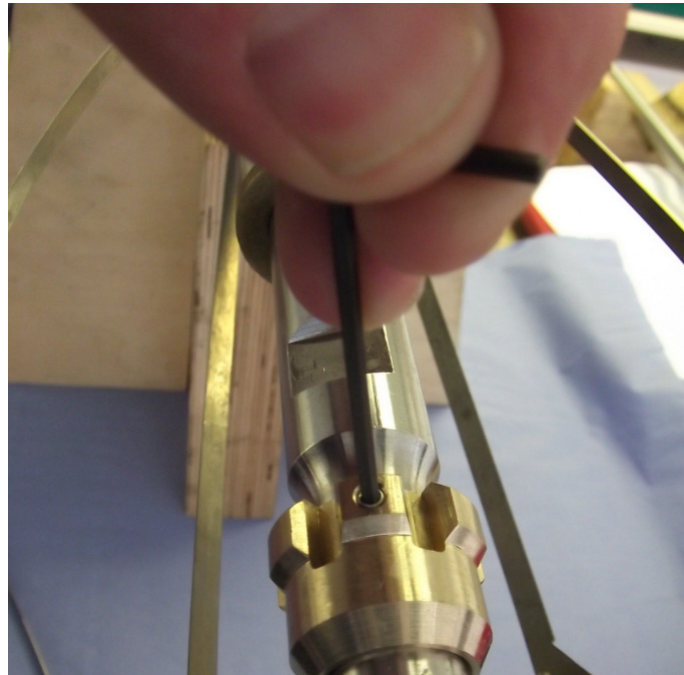

Figure 5.26 Securing the Sensor Guide and Closing Collar
- 5 Secure the Mounting Front Sensor Guide and Mounting Sensor Collar in their final position by tightening the 3-off M6 grub screws in each item. See Figure 5.26.